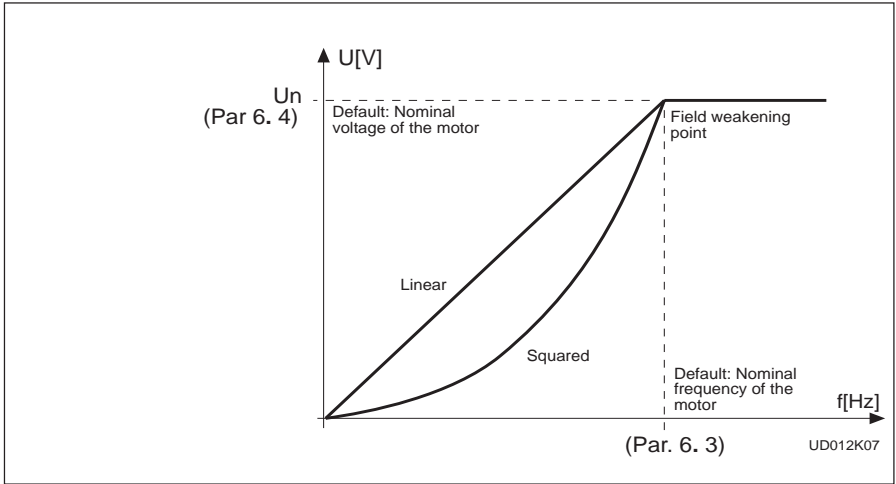

Figure 2.4-1 Linear and squared V/Hz curves.
- 0** The voltage of the motor changes linearly with the frequency in the constant flux area from 0 Hz to the field weakening point (par. 6. 3) where a constant voltage (nominal value) is supplied to the motor. See figure 2.4-1.
Squared: The voltage of the motor changes following a squared curve form with the frequency in the area from 0 Hz to the field weakening point (par. 6. 3) where the nominal maximum voltage is supplied to the motor. See figure 2.4-1.